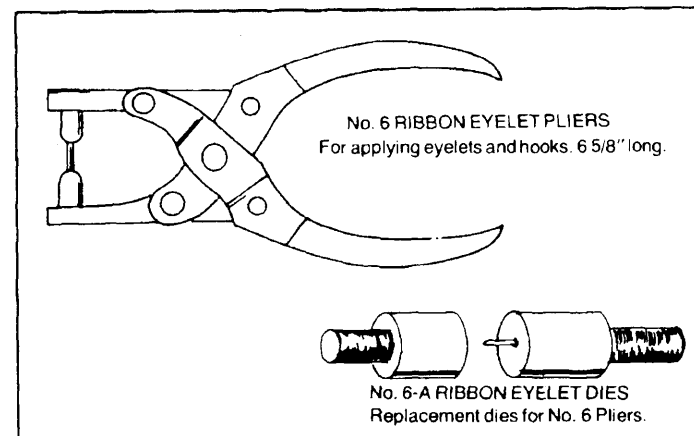

Fig. 4-16. With this tool you may avoid the task of ordering ribbons with eyelets (courtesy of Ames Supply Company).
- ☐ Ribbon eyelet pliers (Fig. 4-16).